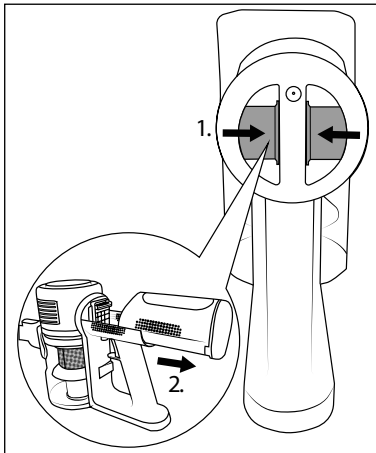

Fig. 12
- ◆ To remove the battery ② from the appliance, press and hold the battery release ① and pull the battery ② out of the appliance (see Fig. 12).